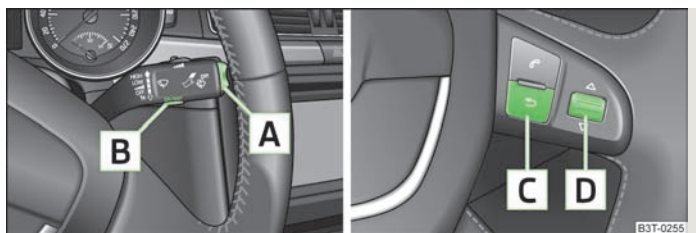

Fig. 7 Multi-functional indicator: Control elements on the windshield wiper lever/control elements on the multifunction steering wheel
Switching over the memory with the help of the button **[B]** » Fig. 7 on the windshield wiper lever or with the help of the adjustment wheel **[D]** » Fig. 7 on the multifunction steering wheel.
The rocker switch  » Fig. 7 and the button  are located on the windshield wiper lever. Switching over and resetting is performed with the adjustment wheel  on the multifunction steering wheel » Fig. 7.
If the outside temperature drops below +4 °C, a snow flake symbol (warning signal for ice on the road) appears before the temperature indicator and a warning signal sounds. After pressing the rocker switch  at the windshield wiper lever » Fig. 7 or the button  at the multifunction steering wheel » Fig. 7, the function shown last is indicated.
The driving time which has elapsed since the memory was last erased, appears in the display. If you wish to measure the driving time from a particular time, you must set the memory to zero at this moment in time by pressing the button  on the windshield wiper lever » Fig. 7 or the adjustment wheel  on the multifunction steering wheel » Fig. 7 for longer than 1 second.
If you wish to determine the average fuel consumption over a certain period of time, you must set the memory to zero at the start of the measurement using the button **B** on the windshield wiper lever » Fig. 7 or the adjustment wheel **D** on the multifunction steering wheel » Fig. 7. Dashes appears in the display for the first 100 m you drive after erasing the memory.
The distance driven since the memory was last erased appears in the display » page 15. If you wish to measure the distance driven from a particular time, you must set the memory to zero at this moment in time by pressing the button **B** on the windshield wiper lever » Fig. 7 or the adjustment wheel **D** on the multifunction steering wheel » Fig. 7.
The average speed since the memory was last erased is shown in the display in km/hour » page 15. If you wish to determine the average speed over a certain period of time, you must set the memory to zero at the start of the measurement using the button **B** on the windshield wiper lever » Fig. 7 or the adjustment wheel **D** on the multifunction steering wheel » Fig. 7.
- With the button **A** on the windshield wiper lever » Fig. 7 or the adjustment wheel **D** on the multi-function steering wheel » Fig. 7, select the menu point **Warning against excessive speeds**.